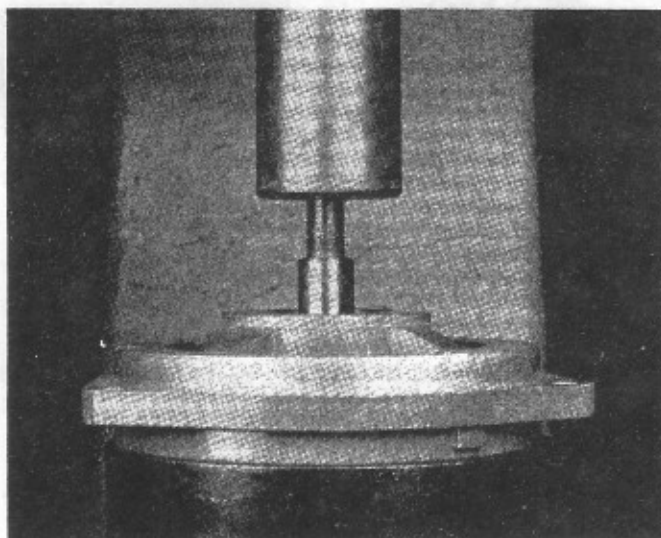

Figure 20
- 4.1 Use an arbor press to separate rotor assembly from DE housing. Fig. 20.